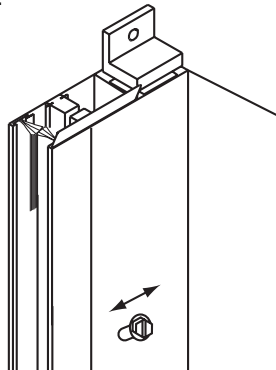
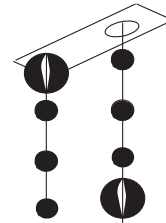

Figure 12
Figure 14
- ⑩ After again checking operation, re-position channels, if necessary, to properly adjoin the head box. Note that channels that are “drilled for jamb” with the adjustable mounting angles attached are designed to help keep the channels plumb and parallel in non-squared openings. The slots in the mounting angles with the side channel attachment screw allow for an adjustment of up to $\frac{3}{8}$ ". This feature allows the channel to be correctly positioned while allowing the mounting angles to be fastened tight against the jamb (see Fig. 12). For outside mount side channels, there is no surrounding jamb, so proper positioning is easier. Install all fasteners in side channels, being careful to keep channels square to the head box and parallel to each other. After checking fabric alignment and channel positioning, return shade to full open position and re-insert the fabric into the side channels. Be sure that the slat bar at the bottom of the fabric is exactly centered. Run the shade through several more cycles to confirm proper operation.
the down stop. Next, open the shade to the fully open position—the slat bar will be all the way up but still fully visible and not entered into the headbox (see Fig. 12). Attach the other stop ball to the very top part of the back section of the exposed chain. This is the up stop (see Fig. 14).